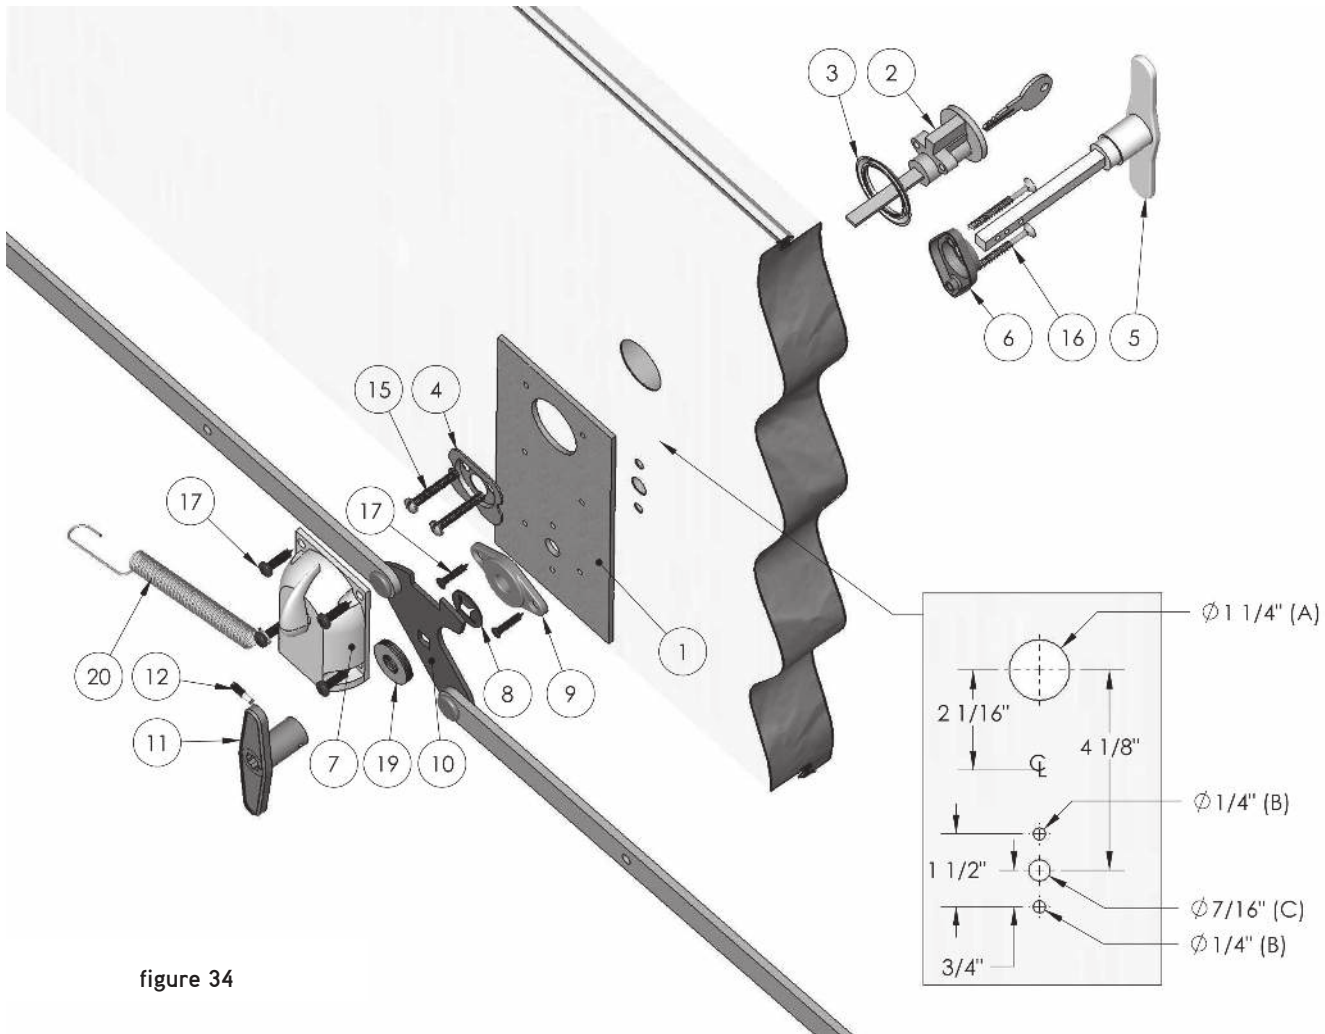

figure 34
2. Using figure 34 as a reference, mark the location of the four holes on the panel for A (barrel), B (screws) and C (handle);
4. Slide the exterior barrel (2) and trim ring (3) into hole (A). (The teeth of the key must be facing up and the key hole must be at the bottom of the barrel);
5. Position the steel plate (1) on the inside of the panel;
6. From the inside of the panel, insert plate (4) in hole (A) by positioning the round part downwards;
7. Insert 10 x 1 1/2" screws (15) in plate (4), align the screws in the holes of the outside barrel (2) and tighten the screws (make sure the plate is well aligned);
8. Insert the inside lock (7) in the shaft of the outside barrel (2) and fasten it to the steel plate (1) with four 3/8" screws (17) using a square head screw driver; Be sure to insert the bottom left screw in the round end of the return spring (20) before installing;
9. From the inside of the panel secure the plate (9) over hole (C) with two 3/8" screws (17);
10. Insert outside handle (5) in trim plate (6) and insert through hole (C);
11. Insert both 2 1/4" screws (16) through holes (B), align them in the steel plate holes and tighten;